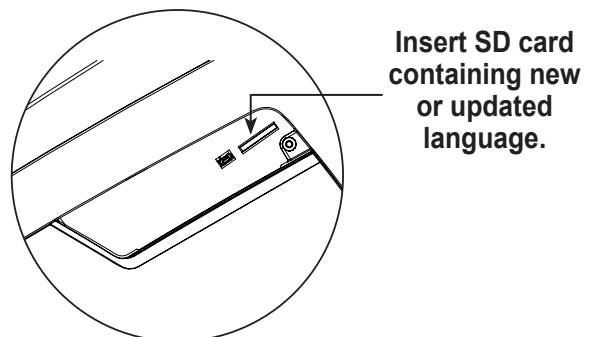

Figure 7
6. Insert the SD card containing the language data into the side panel on the machine. See Figure 7.